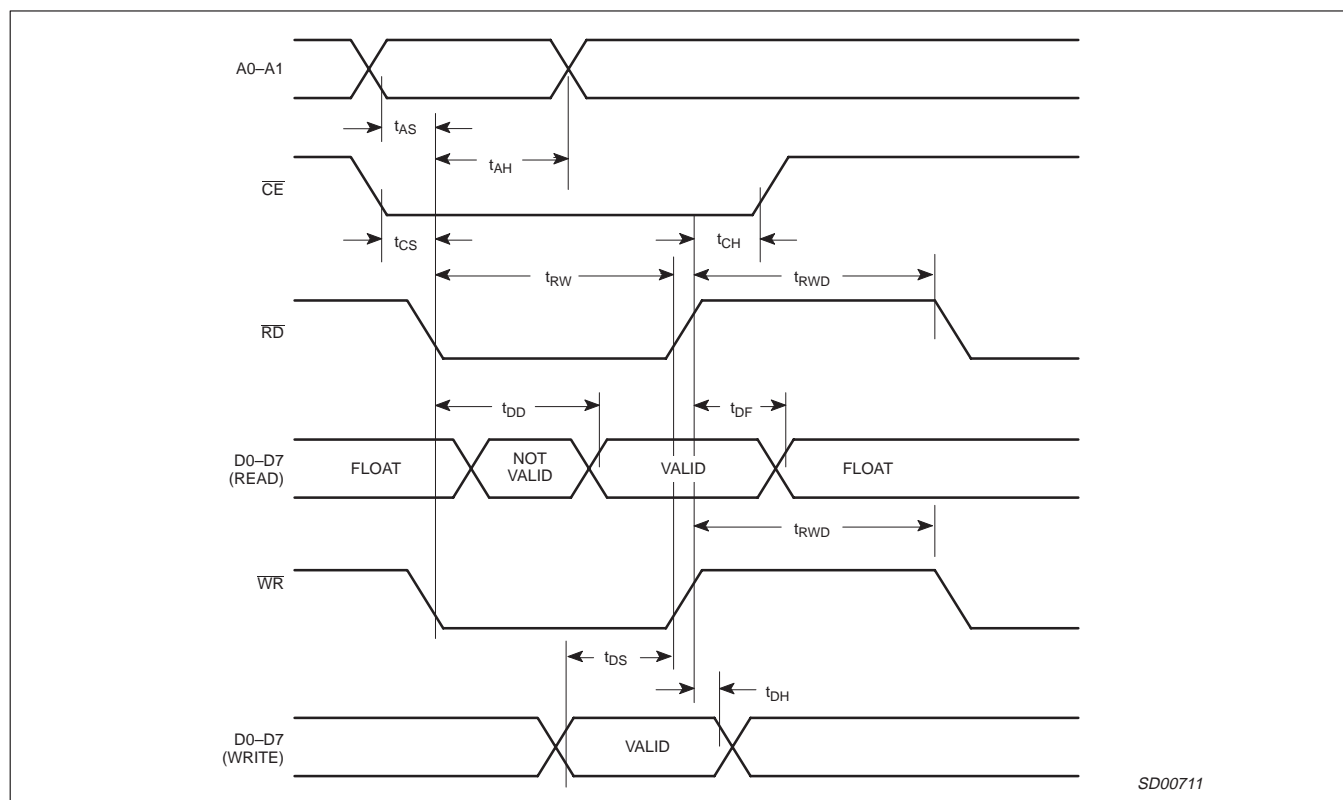

Figure 20. Bus timing
Bus Timing (See Figure 20, 21)
- All voltage measurements are referenced to ground (GND). For testing, all inputs swing between 0 V and 3.0 V with a transition time of 5 ns maximum. All time measurements are referenced at input voltages of 1.5 V and output voltages shown in Figures 20–21.